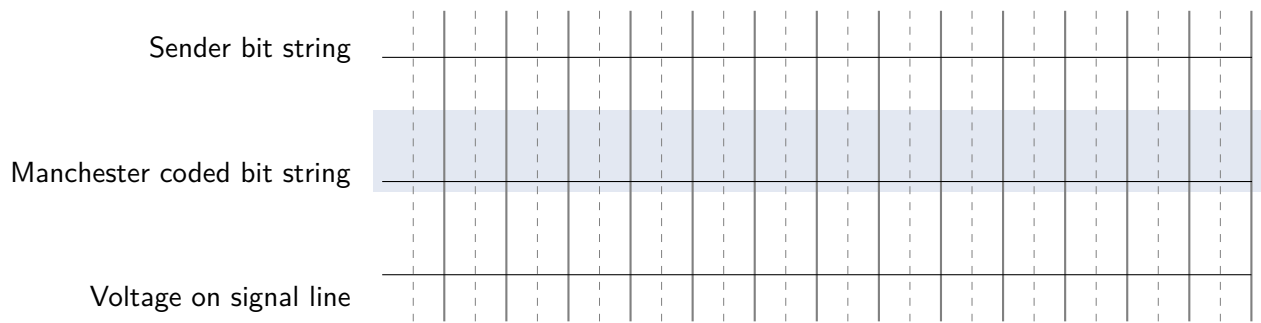

Figure 3.2: Waveform of the sender voltage
- A) Specify the course of the sender voltage on the ASI bus. A time offset does not need to be considered (Note: The control bit must have value '0' for data transmission, use even parity without considering start / stop bits). Use figure 3.2 and Manchester as per IEEE 802.3